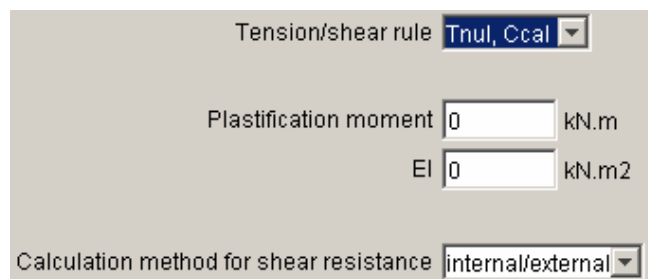

Figure 45: reinforcement dialogue box: tab 1 (nails) with calculation mode (T_{nul}, C_{cal})
- ⇒ If reinforcement mode is (T_{nul}, C_{cal}) (Figure 45), it is necessary to provide the following data: